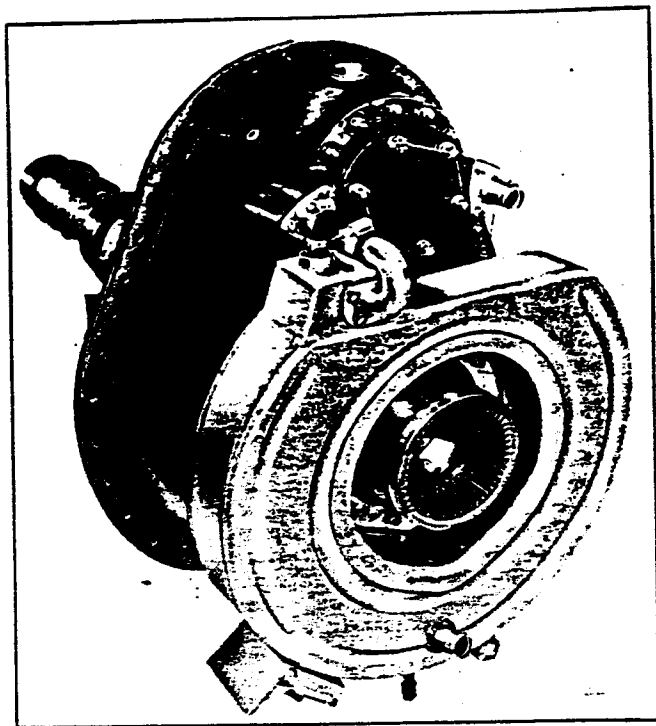

Figure 9. Propeller Gear Box Oil Tank
k. OIL TANKS, PROPELLER GEAR BOX. (See figure 9.)
(1) DESCRIPTION.- Four metal oil tanks having a capacity of 3 U.S. gallons each, furnish oil for lubrication of the propeller gear boxes. The oil tanks encircle the propeller drive shaft, and are secured to the propeller gear box housing by ten studs, nuts and washers.